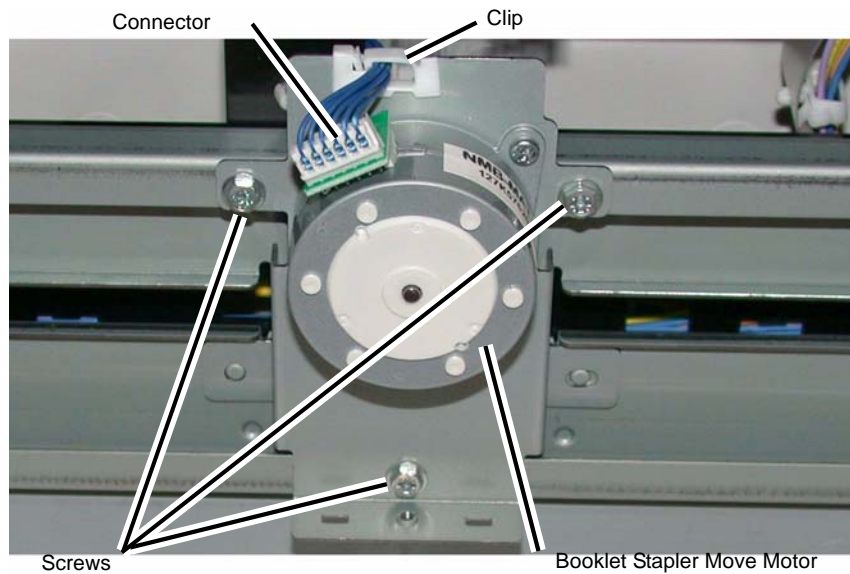

Figure 2 Removing the Booklet Stapler Move Motor
4. Remove the Booklet Stapler Move Motor (Figure 2).